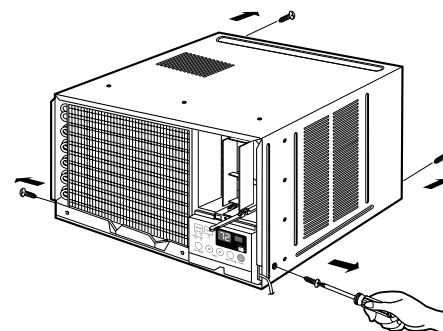

Figure 19
8. Re-install the components by referring to the removal procedure, above. (See Figure 19)